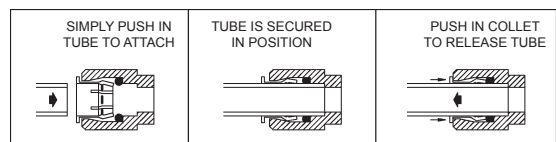

FIG. 4
To insert tubing, push tube straight into fitting until it reaches a positive stop. To remove tubing from the fittings, relieve water pressure, push in on dark gray collar while pulling out on the tubing. See Figure 4.
3. **Actuation of Quick Connect Water Fittings:** Cooler is provided with lead-free connectors which utilize an o'ring water seal. To remove tubing from the fitting, relieve water pressure, push in on the gray collar while pulling on the tubing (See Figure 4). To insert tubing, push tube straight into the fitting until it reaches a positive stop, approximately 3/4".